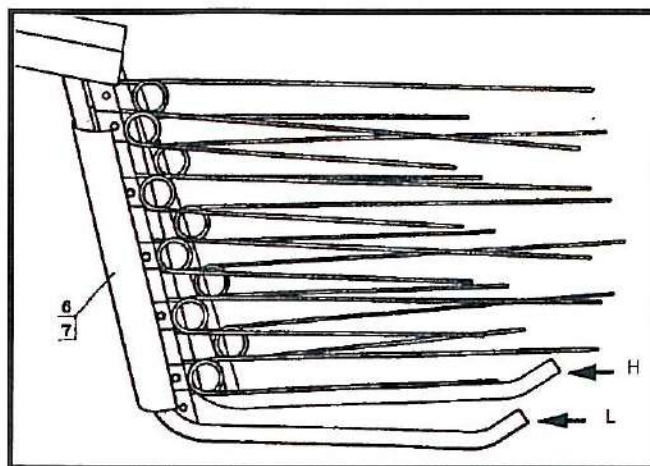

Fig. 10. Setting the screens at vertical plane.
- Set the slope of the screens 6 and 7 at vertical plane in higher position H (Fig. 10. and 11.) or in lower position L (Fig. 10. and 12.)